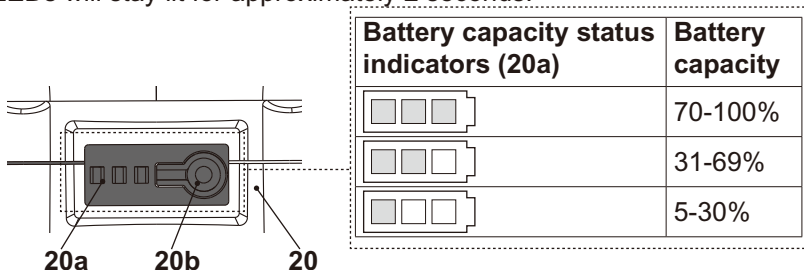

Fig. 12
The battery pack (20) is equipped with the battery capacity indicators (20a) which are used to give an indication of the battery pack's remaining capacity. Press the battery capacity button (20b) to check battery capacity (Fig. 12).